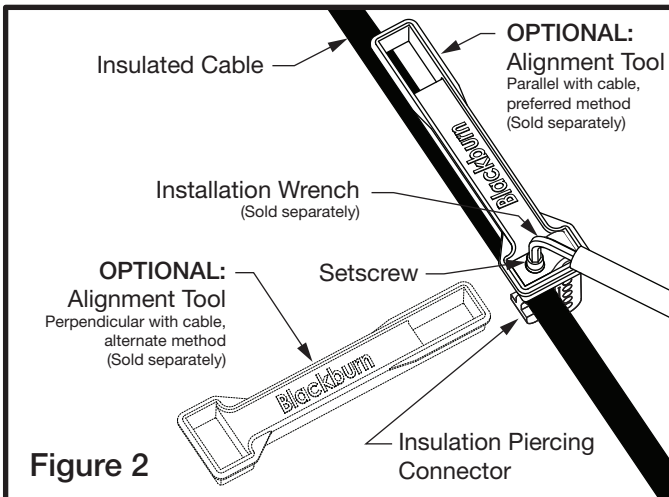

Figure 2
2. Hold the Piercing Connector in place on the cable and tighten the setscrew with an insulated wrench until the screw head shears off (see Figure 2 and 3).
Helps installer keep the connector perpendicular to the conductor while applying torque (see Figure 2 and 3).
- 11) Hold the Neutral Connector in place on the cable and tighten the setscrew with an insulated wrench until the screw head shears off (see Figure 2 and 3).